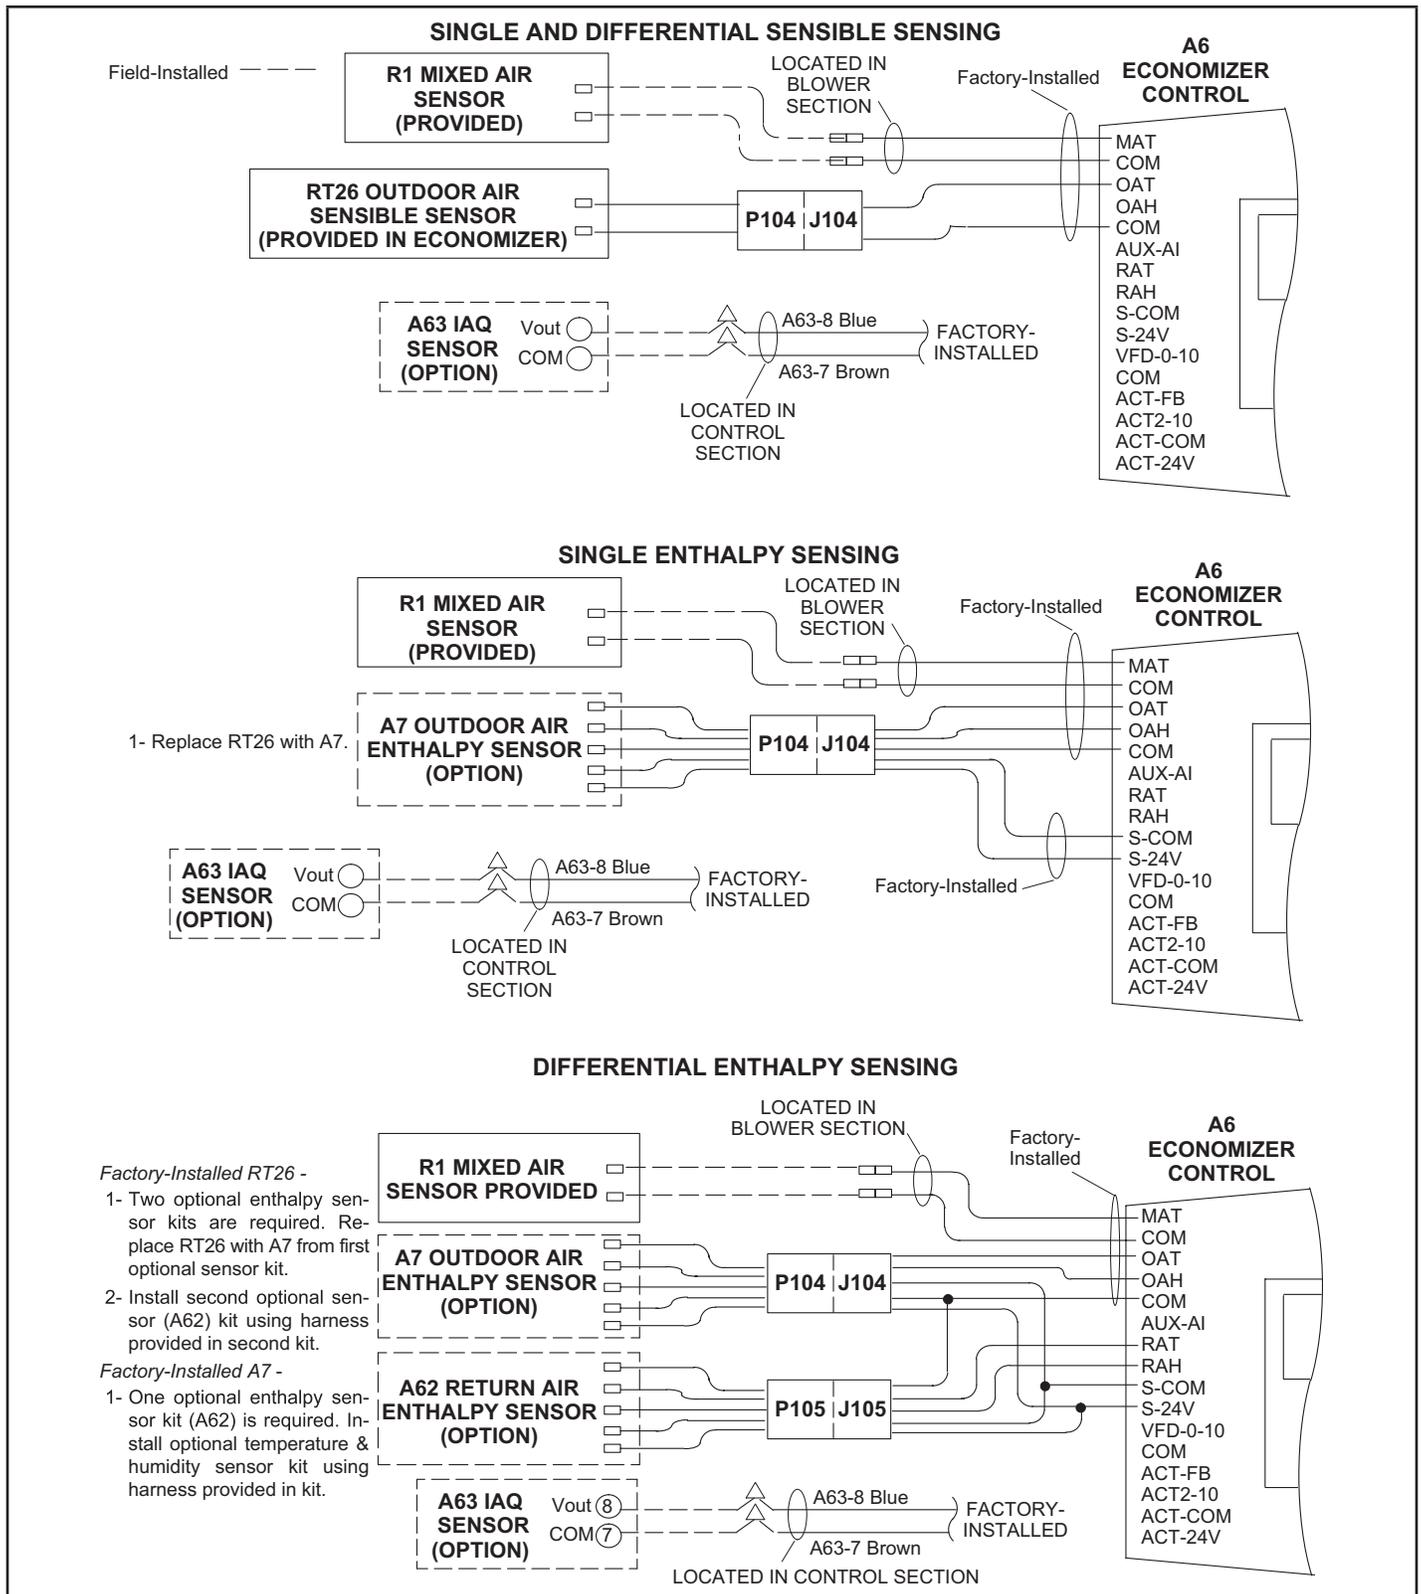

FIGURE 27
- 1 - Locate two wires labeled R1 in wire bundle in top of blower section. Connect spade terminals on R1 harness to the wires from the bundle. Connect the R1 harness 2-pin connector to the R1 2-pin connector. See FIGURE 27. Make sure to secure wires away from moving parts.
- 2 - Connect blue A63-8 wire to CO2 sensor Vout lead. Connect brown A63-7 wire to CO2 sensor COM lead. Secure with wire nut. See FIGURE 27.